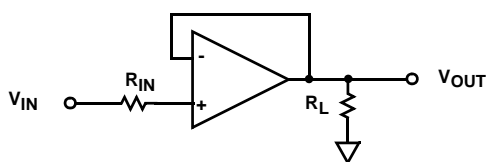

FIGURE 39. INPUT CURRENT LIMITING
0.5V, an external series resistor must be used to ensure the input currents never exceed 5mA (Figure 39).